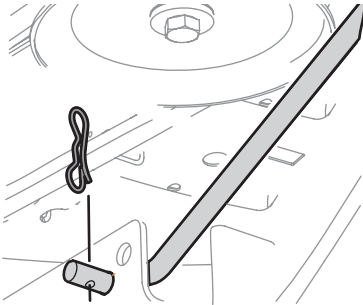

Figure 43
- Pull the bow-tie pin out of the front deck lift rod securing it to the deck. See Figure 43. Slide the deck lift rod out of the front hanger bracket.